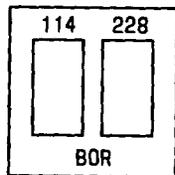

Fig. 1—J99343BL Switches
**2.01** Initial settings may be found on the circuit layout record (CLR) for existing circuits. Prescription settings are provided in Part 4 for new circuits or existing circuits where settings are not available. For the J99343BL, the controls that must be adjusted are the build-out resistor (BOR) switches, the R potentiometer dial, and the 600/900 switch. The BOR switches, the R potentiometer, and the 600/900 switch are shown in Fig. 1.
**2.02** The R potentiometer numerical graduations shown in Fig. 1 are not marked on the unit. The settings (1-7) must be estimated. The setting 0 is the maximum counterclockwise position, and the setting 8 is the maximum clockwise position.